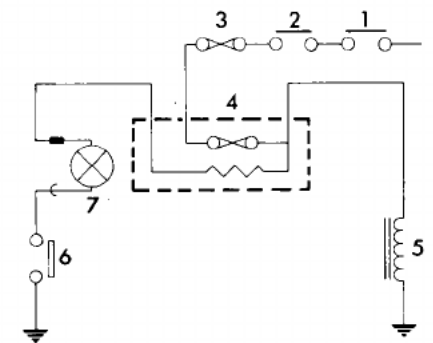

Fig 44
Connect a test lamp in series with the superheat switch (Fig. 44).
**KEY TO DIAGRAM (Fig. 44)**